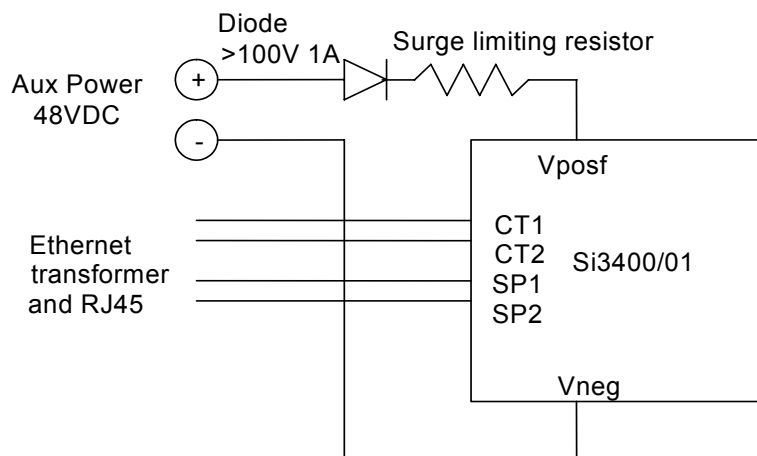

Figure 14. 48 V Auxiliary Supply
In some applications, it is desirable to be able to use either the power from the RJ45 Power over Ethernet or from a low-cost auxiliary power supply. This is very easy to do with the Si3400/01, and a 48 V auxiliary supply is shown in Figure 14.
- Updated Figure 14 on page 17.